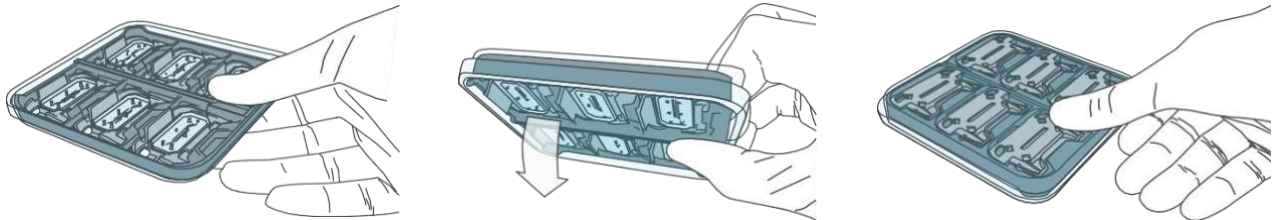

Figure 7: Inverting chips during endothelial attachment
10. Invert chips immediately after (See Figure 7 below).